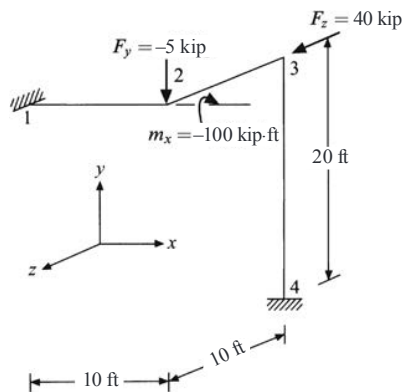

Figure P5-58
**5.58-5.59** Determine the displacements and reactions for the space frames shown in Figures P5-58 and P5-59. Let  $I_x = 100 \text{ in}^4$ ,  $I_y = 200 \text{ in}^4$ ,  $I_z = 1000 \text{ in}^4$ ,  $E = 30,000 \text{ ksi}$ ,  $G = 10,000 \text{ ksi}$ , and  $A = 100 \text{ in}^2$  for both frames.